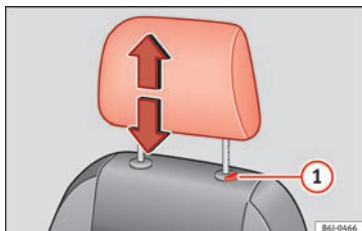

Fig. 141 Front head restraint: adjust or remove.
- Press catch **①** » **Fig. 141** and remove the head restraint.